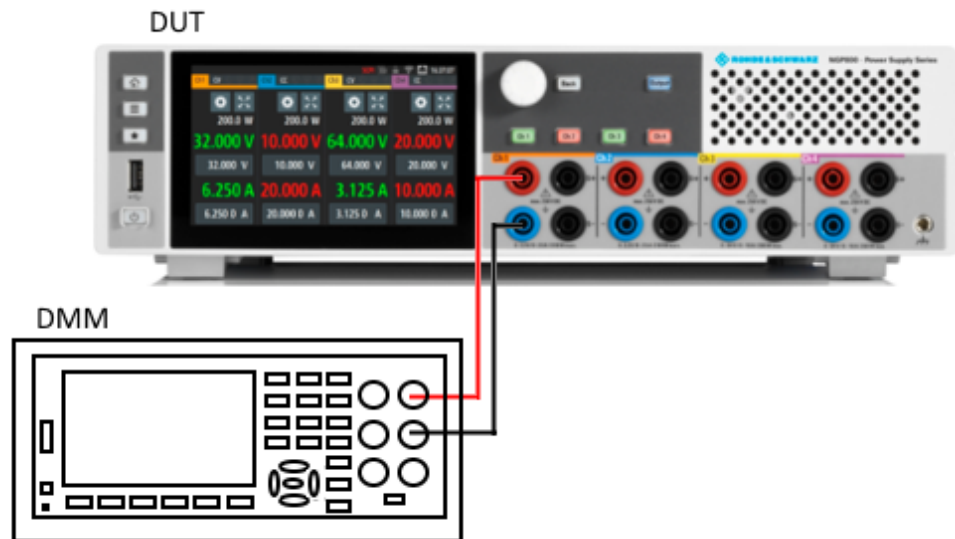
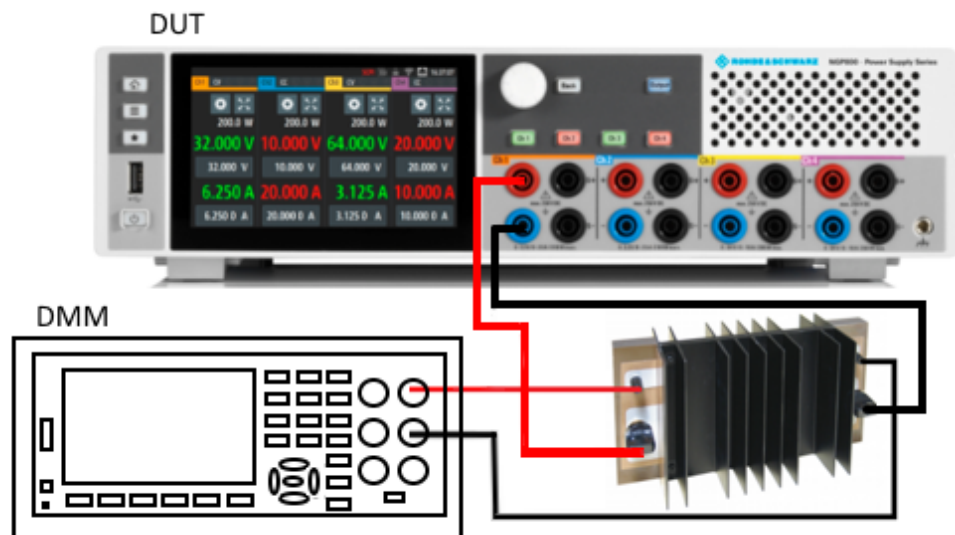

Figure 6-40: Voltage adjustment setup
Figure 6-41: Current adjustment setup
- Connect the DMM to the instrument and monitor the measured voltage or current. See Figure 6-40 and Figure 6-41.
4. Depending on the types of adjustment (voltage or current), setup the instruments illustrated in Figure 6-40 or Figure 6-41.